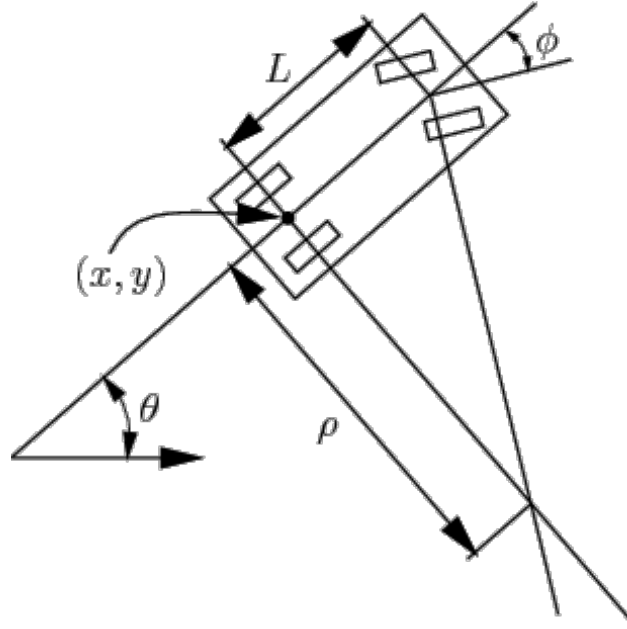

Figure 1: Use this model of a “simple car”
The CPS we will be designing in this homework is control of a simple car. A small sketch of the system can be seen in Figure 1.
4. you can control the angle of the front wheels u_2 or ϕ in Figure 1